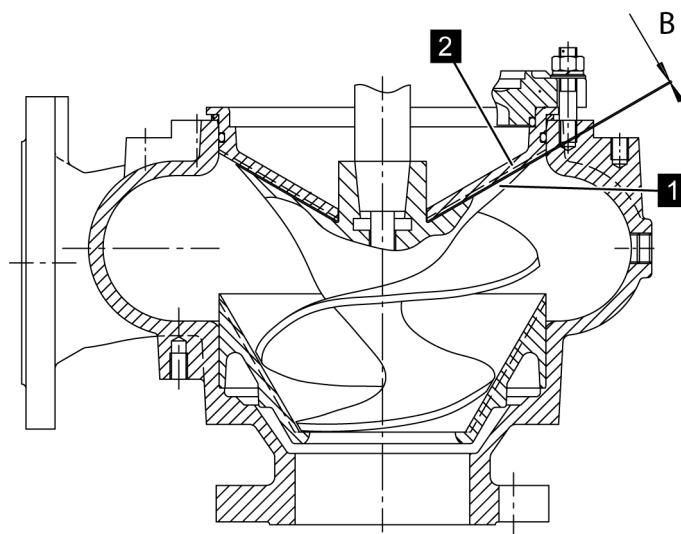

Fig. 74
2. ➤ Measure clearance "B" (Fig. 74) between impeller and rear cone or seal via feeler gauge at several points in the circumference.